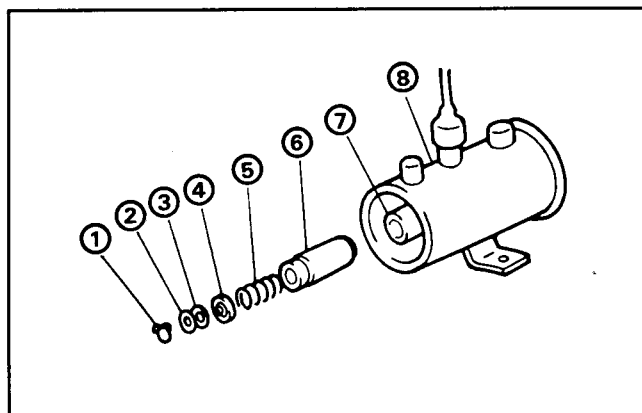

Figure 43
5. Carefully remove the spring retainer from the end of the plunger tube (Fig. 43). Remove the washer, o-ring, valve, plunger spring and plunger.